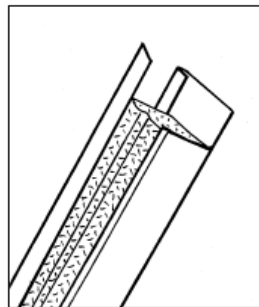

Figure 7
- 6) On the top, cut a $\frac{7}{8}$ " notch off the inside or starter side leg and an equal $\frac{7}{8}$ " notch out of the inside of the J pocket of the lineal. Trim foam down to the notches. (Figure 7)